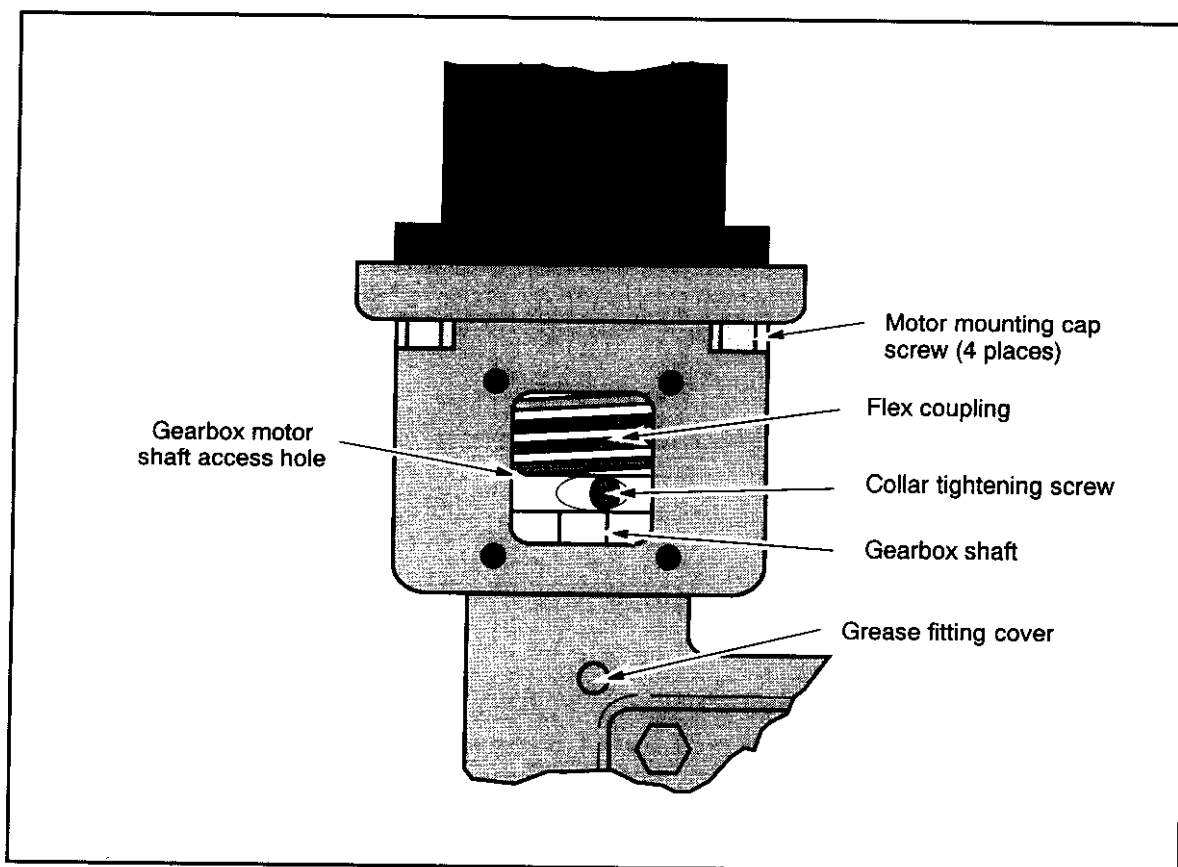

Figure 26. Azimuth Flex Coupling Access.
- Remove the four cap screws holding the gearbox motor shaft access cover (see Figure 26).